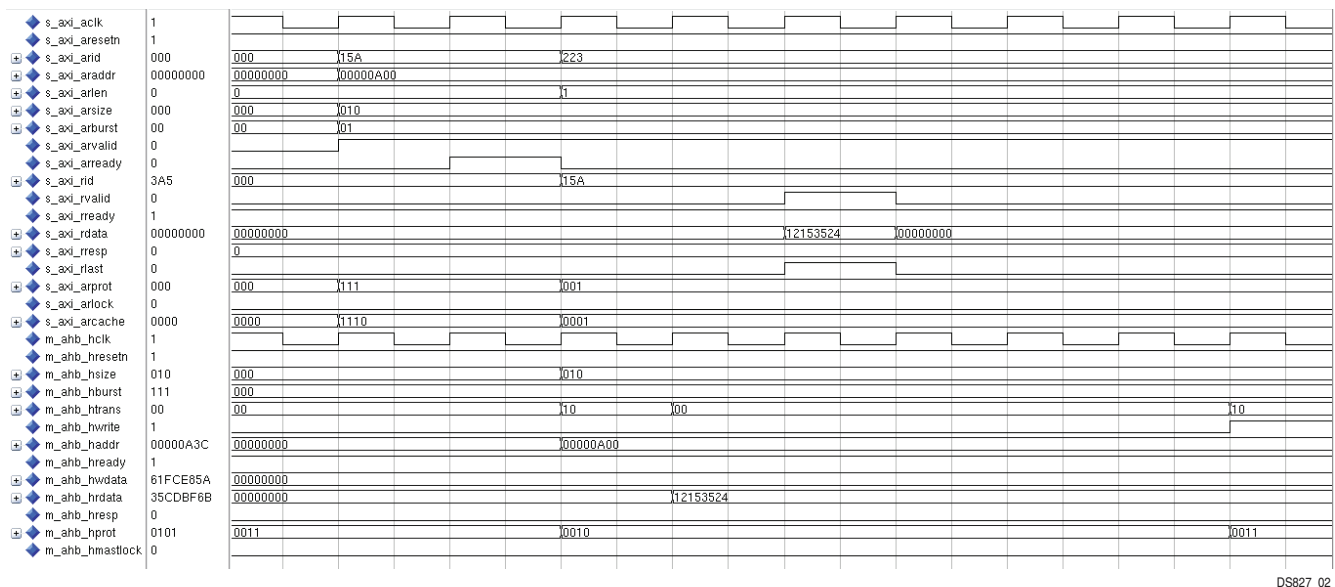

Figure 2: AXI Incrementing Burst Read Transfer of Length 1
1. AXI incrementing burst read transfer of length 1 is shown in Figure 2.